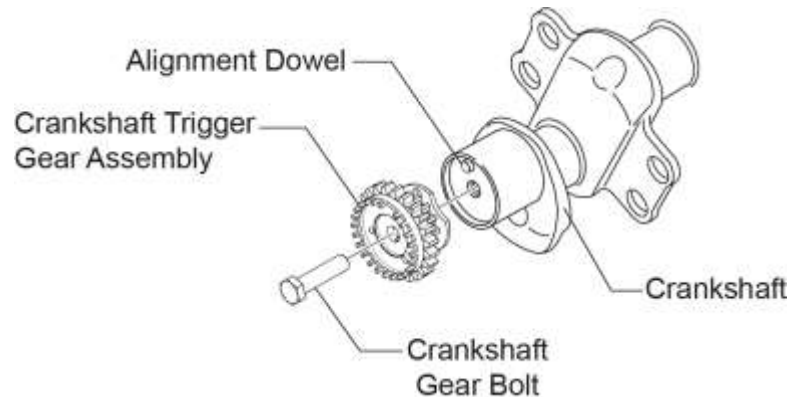

Figure 103
- E. Remove the Idler Gear Assembly Aid (ST-532) and install the crankshaft gear bolt in the crankshaft (Figure 103).
- G. Initially torque the crankshaft gear bolt (Figure 103) to 125 in.-lb. (14.12 Nm) torque.